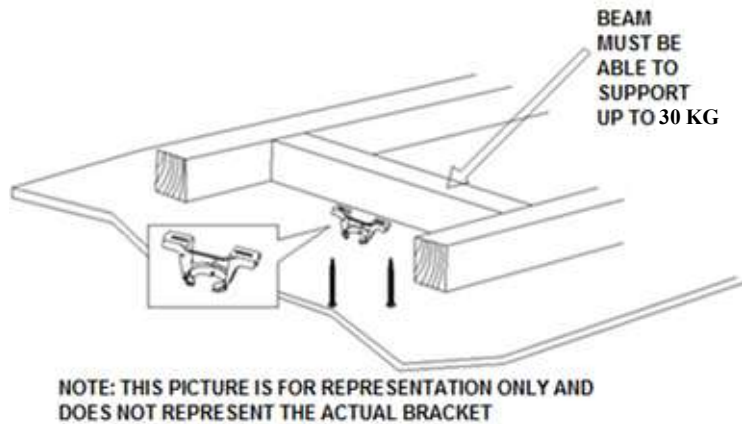

Fig. 2
- Install the hanging bracket to the ceiling joist or structure that is capable of carrying a load of at least 30kg, with the two long screws provided. Ensure at least 30mm of the screw is threaded into the support. (Fig. 2)